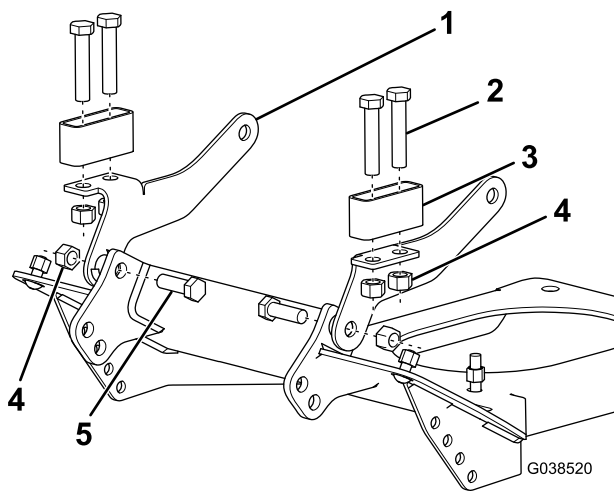

Figure 3
11. Using the existing bolts and nuts, 2 short 3/8-inch bolts, and 2 top locknuts, secure the mounting brackets to the plow skid plate and vehicle (Figure 3).
12. Secure the bumper shims to the mounting brackets using 4 long 1/2-inch bolts and 4 top locknuts (Figure 3).